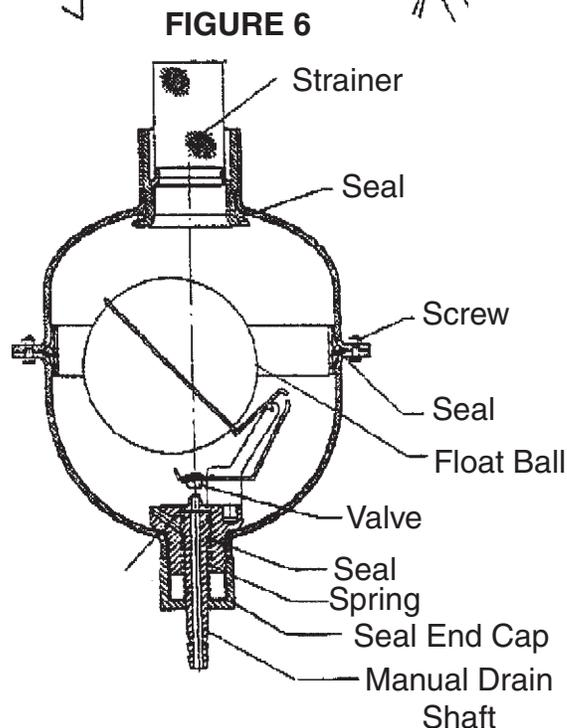

FIGURE 6
2. See **FIGURE 6**. Washing the auto drain. To wash the auto drain, close the 1/2 ball Filter Valve on top of the drain. Pull the manual drain shaft handle to empty the water. Take apart the drain and the fixed screw. Clean the strainer from inside to out. Take apart the manual drain shaft and the seal end cap. Take off the float ball and valve seat. Clean each component and reassemble.